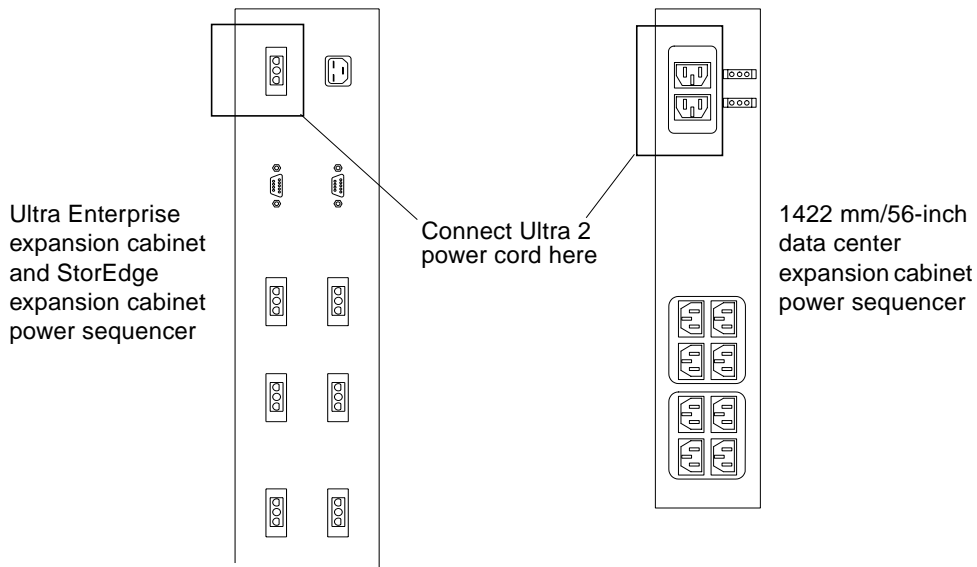

FIGURE 1-5 AC Power Sequencers—Ultra 2 Power Connector
You need to order one of the following power cords depending on the type of power sequencer in the expansion cabinet (FIGURE 1-5):
3. Connect the power cord from the Ultra 2 host into the top power connector of either power sequencer (FIGURE 1-5).